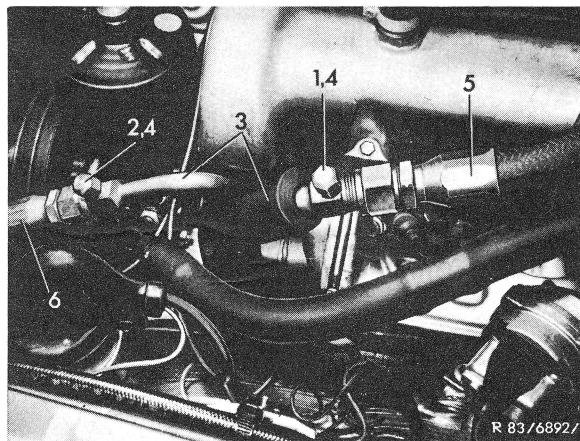

Figure 2
- 1 Remove plugs (4) and caps (5) of both service valves (Fig. 2).
- 2 With valves A and B on gauge set closed, connect hoses (5 and 9) to connections of service valves. On service valves with Schrader valve make sure that the offset end of the hose lines with pressure pin is connected to the connection of the two service valves (refer to Job No. 83.0-840, Fig. 2).